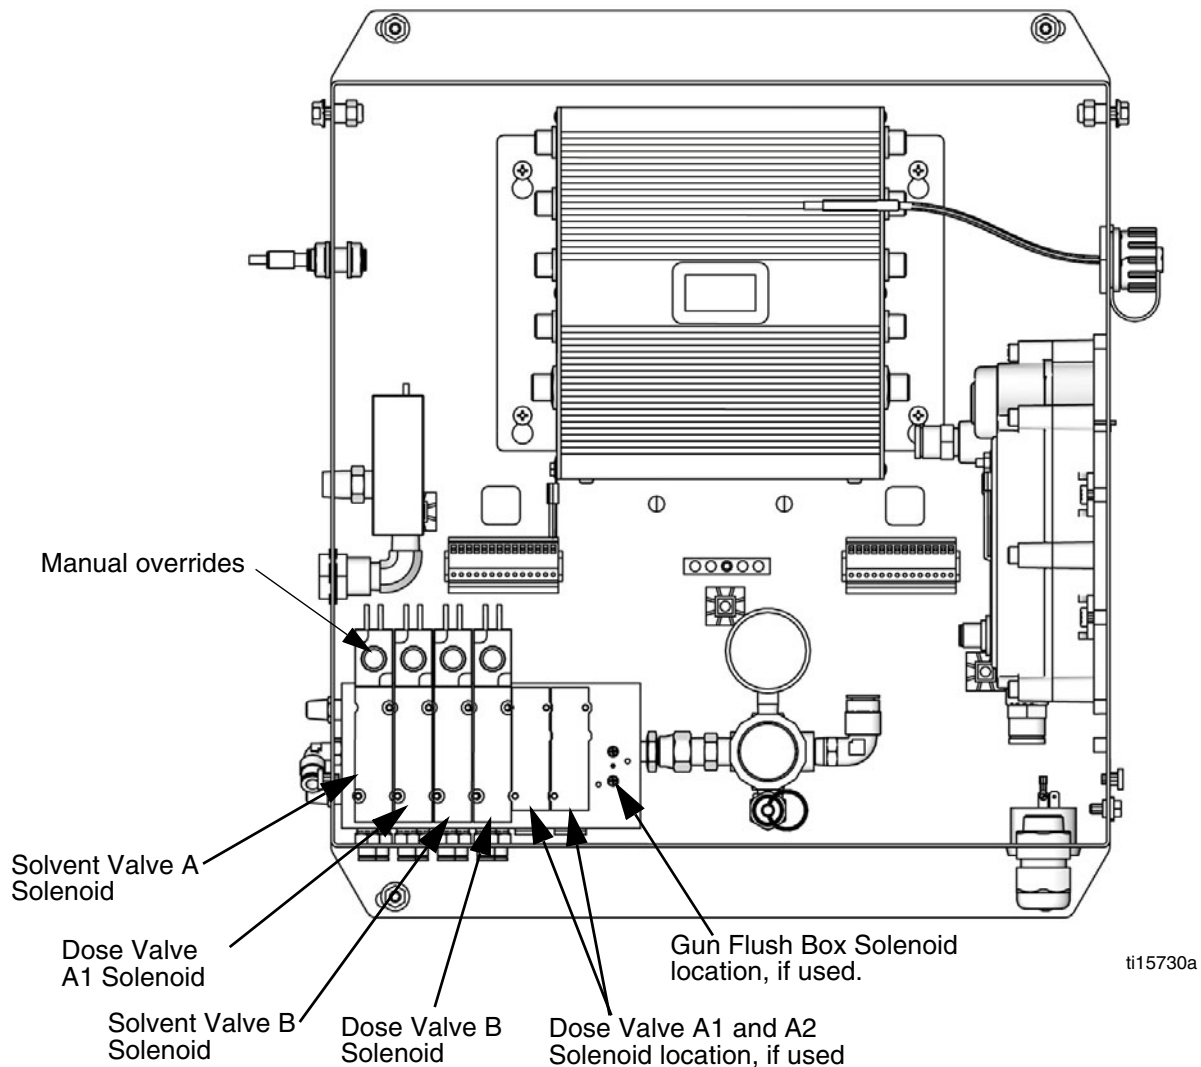

FIG. 22. Solenoid Valves in Control Box
4. With the gun triggered, push the manual override on the A1 (A2, A3) and B dose valve solenoids to relieve pressure. See FIG. 22.
7. With the gun triggered, push the manual override on the A and B solvent valve solenoids to relieve solvent pressure. See FIG. 22. Verify that solvent pressure is reduced to 0.